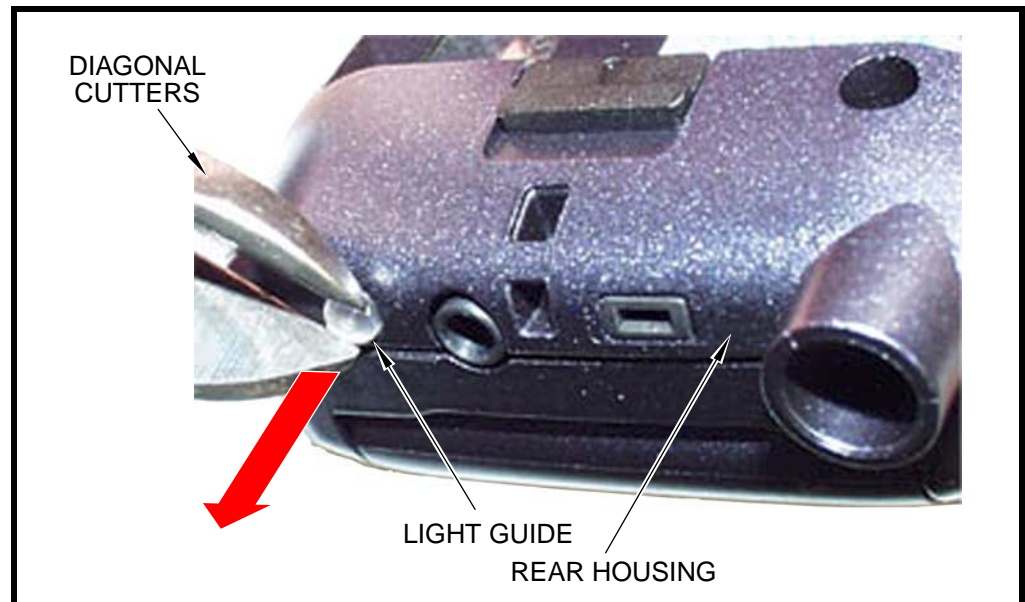

Figure 9. Removing and the light guide
2. Using the diagonal cutters, gently grasp the exposed portion of the light guide and pull straight out of the housing. See Figure 9.